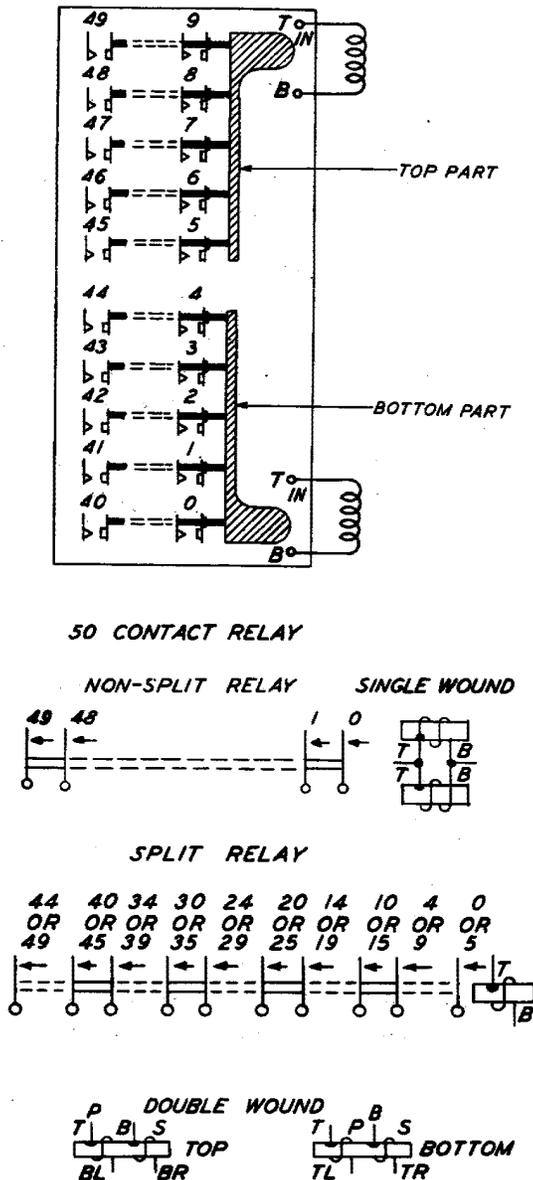

Fig. 48 - Winding and Contact Spring Arrangement as Viewed From the Front (contact side) — 245-, 254-, 263-, and 264-Type Relays
2.56 The contact springs are numbered consecutively in vertical rows of ten pairs of springs starting at the bottom with pair 0 in the row nearest the vertical armature as shown in Fig. 48 and continuing with each vertical row of springs from right to left facing the contact side of the relay. Either half of a relay may be operated separately or both halves may be operated together, the numbering of the contact springs being the same in each case. Where both halves are operated together the schematic drawing shows the two windings in multiple and shows a single armature and all the contact spring pairs. In case both halves of the relay perform identical functions but operate separately, one magnet and set of springs are shown with two sets of spring numbers. Otherwise each half is shown as a separate relay with its own arma-